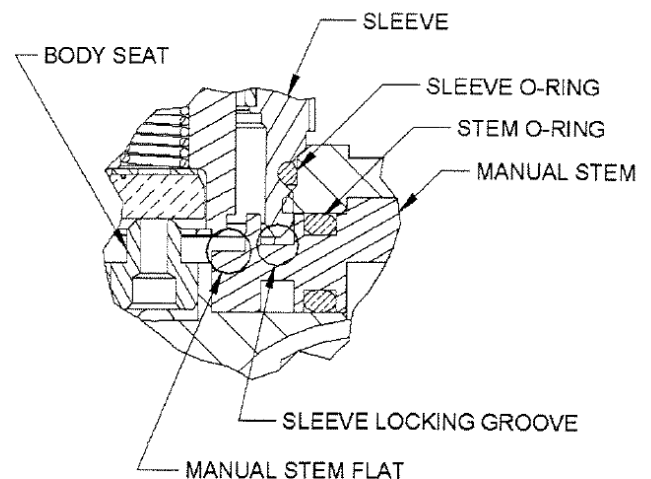

Figure 1 – Stem Position Diagram for Reassembly
To reassemble the pressure vessel, refer to exploded view drawings. Parts must be replaced in the order shown. For the pilot section, assemble the (3) O-rings on manual bypass stem (where applicable) prior to assembly of sleeve to the body. Insert manual stem into the body. Replace the manual stem retainer and torque to 40 - 50 in-lbs. Reference Figure 1 for manual stem positioning allowing assembly of the sleeve into the valve body.